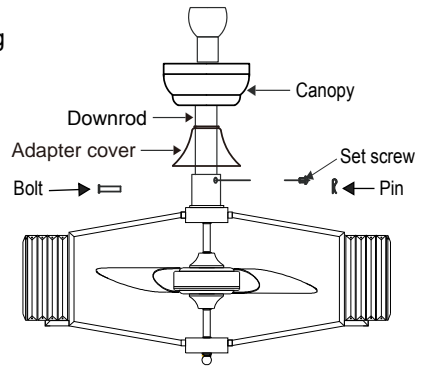

Fig. 4
- Step 1.** Assemble the canopy and adapter cover as Fig. 4.
- Step 4.** Align the holes at the bottom of the downrod with the holes in the collar on top of the motor housing (Fig. 4). Carefully insert the bolt through the holes in the collar and downrod. Be careful not to jam the bolt against the wires inside the downrod. Insert the pin to the end of the bolt (Fig. 4).